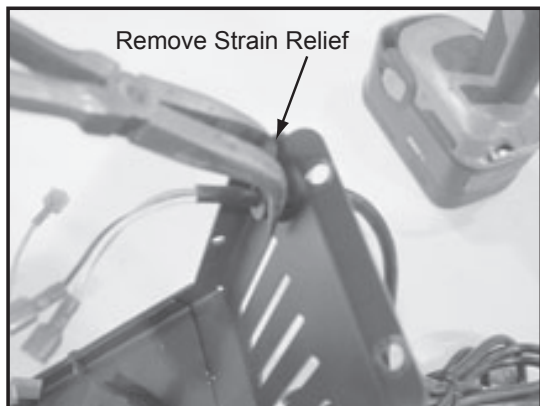

Figure 20.2
6. Remove the heat shield from the housing. First remove the screw on the bottom of the housing that holds the heat shield support. Second, remove the three flat head screws that hold the shield to the housing. **Figures 20.2 and 20.3.**